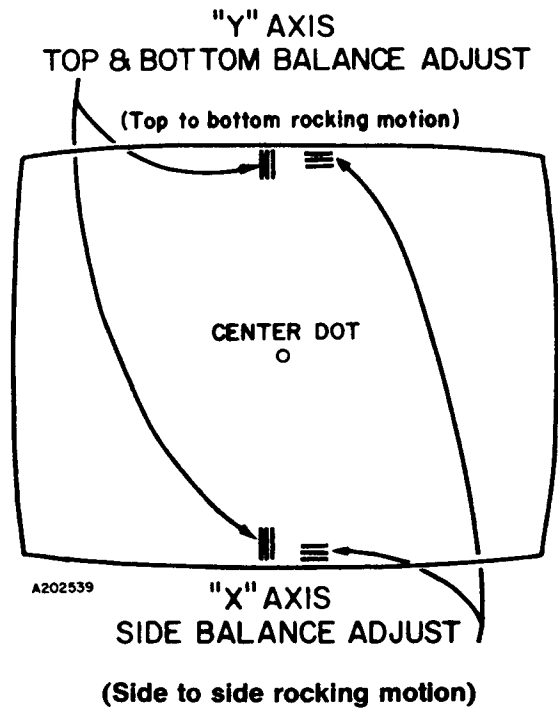

Fig. B6-1 Center Dot and Edge Convergence
2. Applying a vertical rocking motion (up-down) to the deflection yoke balance the convergence error of the center red and blue vertical lines, both top and bottom, so that they are separated equally (if any) and do not cross over each other on opposite sides top and bottom (Fig. B6-1).
4. Applying a horizontal rocking motion (left-right) to the deflection yoke balance the convergence error of the center red and blue horizontal lines, both top and bottom, so that they are separated equally (if any) with either the red or blue lines high or low but not either one high at top or low at bottom (Fig. B6-1).